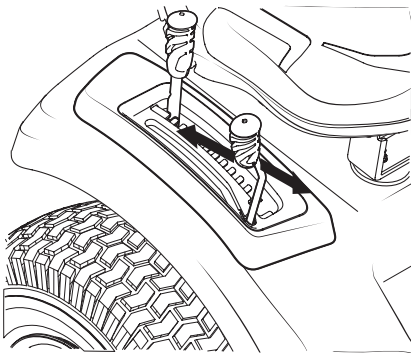

Figure 28
- Push the PTO (Blade Engage) Lever forward into the engaged (ON) position. See Figure 28.